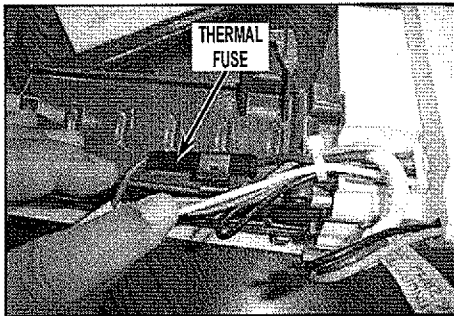

FIGURE 15
17. Slide thermal fuse into clip on ice maker. See *Figure 15*.